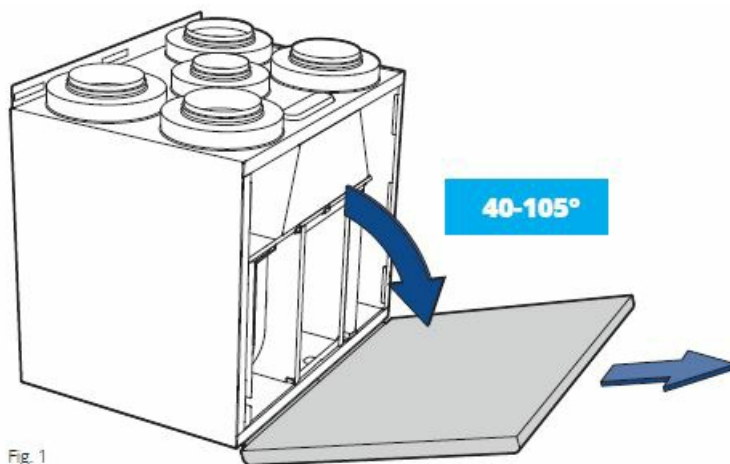

Fig. 1
- The door can be lifted off when it is open between 40° and 105° (see Fig. 1).